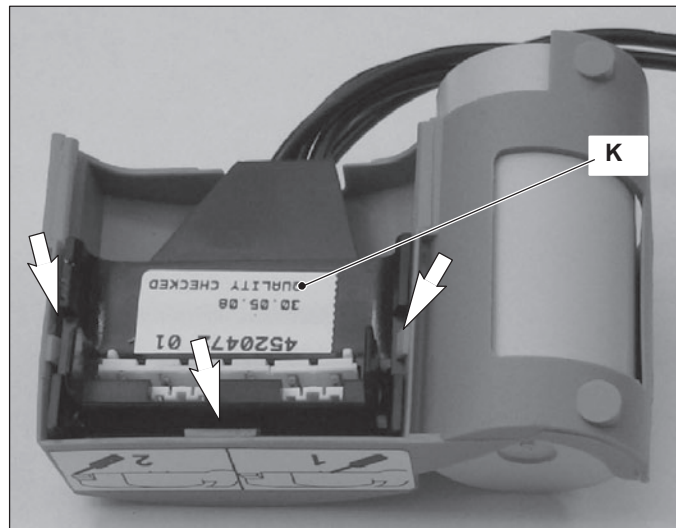

Figure 7.4
- 3 Remove the connector K of the cover box by levering with a screwdriver in as shown in (Figure 7.4)